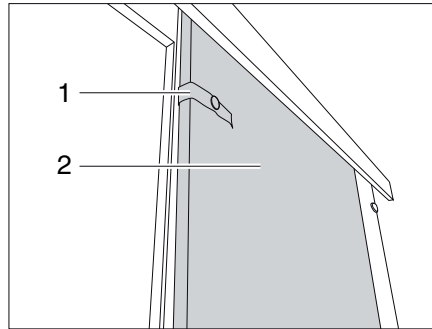

Fig. 238 Sliding door
- Release the securing strap (Fig. 238,1).
- Pull the sliding door (Fig. 238,2) into the closing position.
- Push the sliding door (Fig. 238,2) into the open position.
- Secure the sliding door with the securing strap (Fig. 238,1).